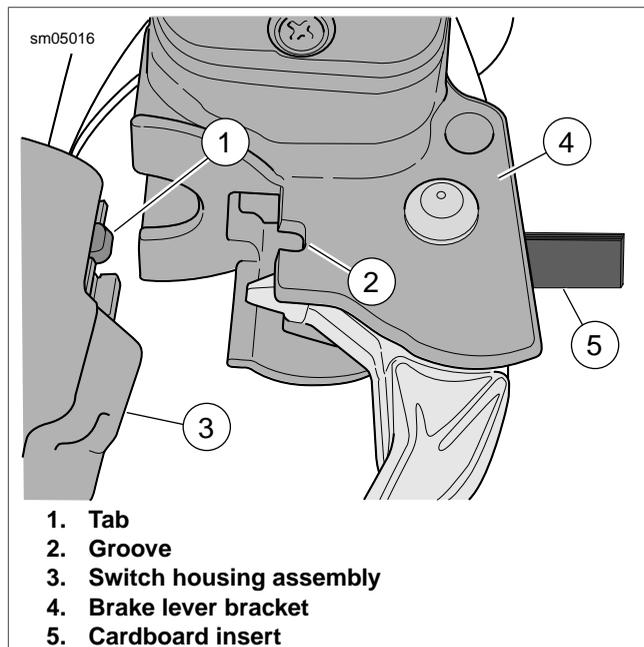

Figure 8-128. Remove Master Cylinder/Brake Lever Assembly
1. Place cardboard insert between brake lever and lever bracket. See Figure 8-128.